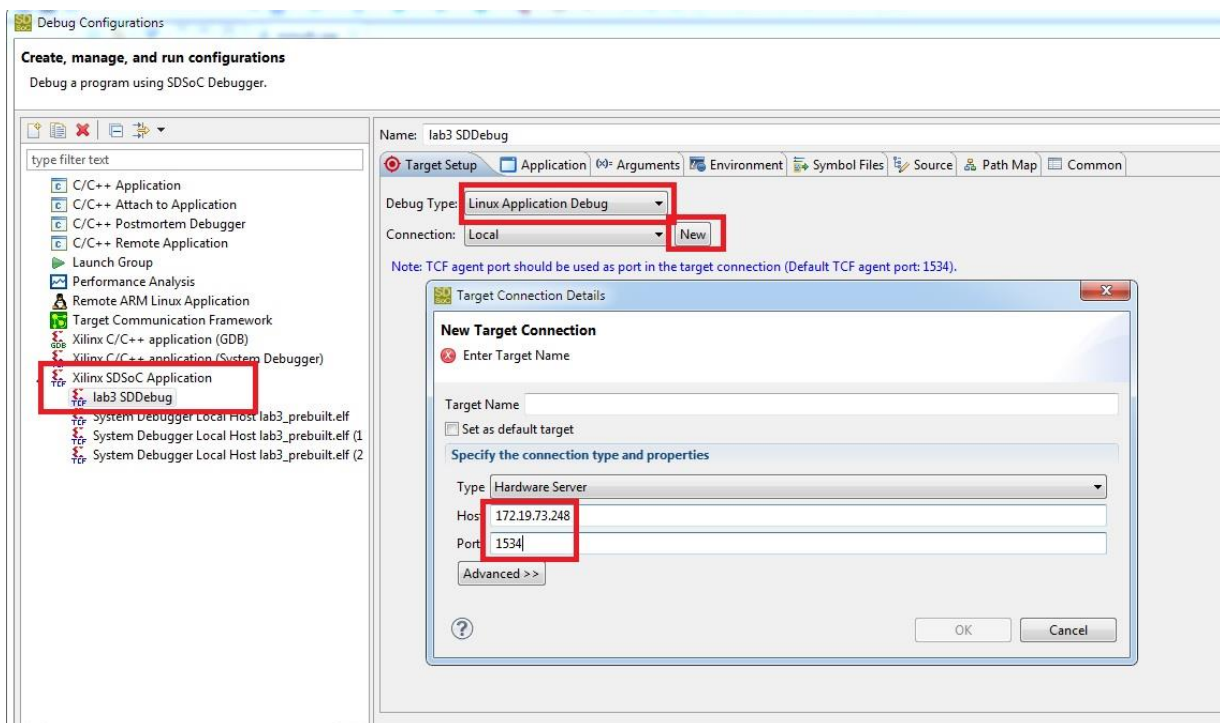

Figure 31. Setting up the Linux Debug Configuration
- f. Click **New** besides the Connection box and setup the IP address and port (1534) as shown in Figure 31. Click **OK**.